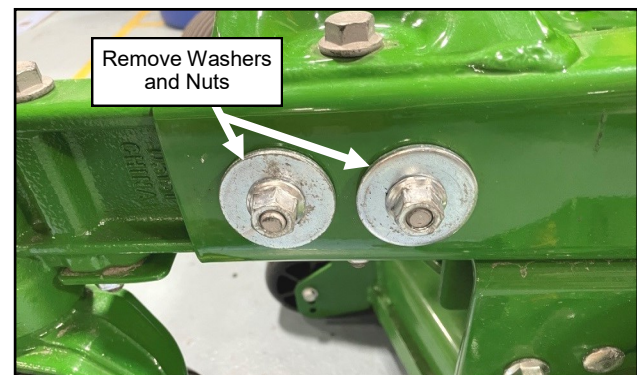
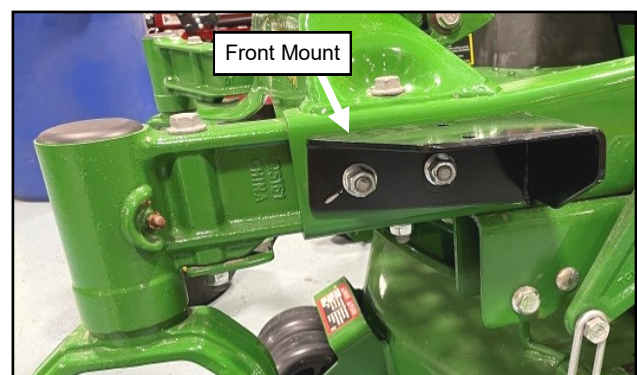

Fig. 1.22a (Remove M12 Washers and Nuts)
Fig. 1.22b (Install Front Mount, Left Side)
- 1.22** Remove (2) M10 lock nuts and washers from the left side of the vehicle's caster arm per Fig. 1.22a. Install front mount using the recently removed M10 lock nut. Leave mounts loose per Figure 1.22b. Repeat on right side of vehicle.